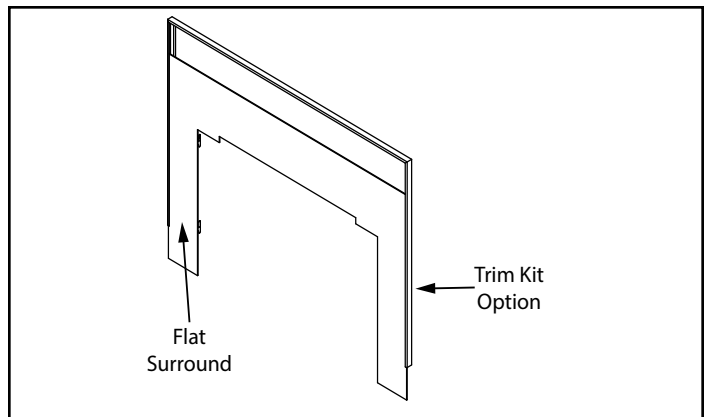

Figure 5.8
3. Slide trim over flat surround as shown in **Figure 5.8**.